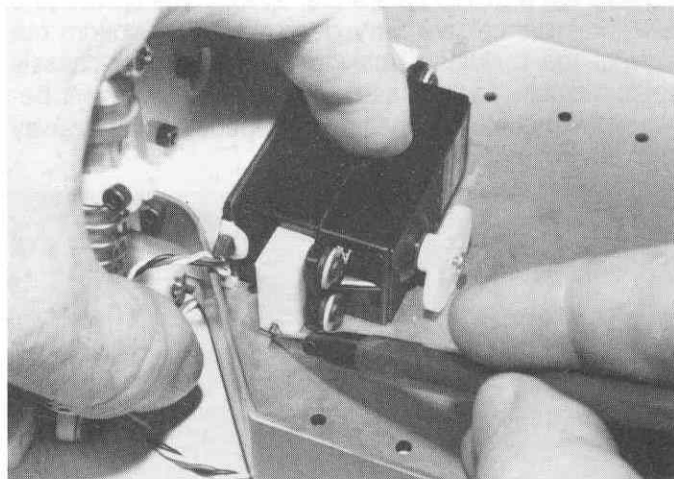

Fig. 166
□ **Fig. 166** Position the servo as far back as possible in the chassis and mark the center and edge of the mounts on both sides with a pencil.